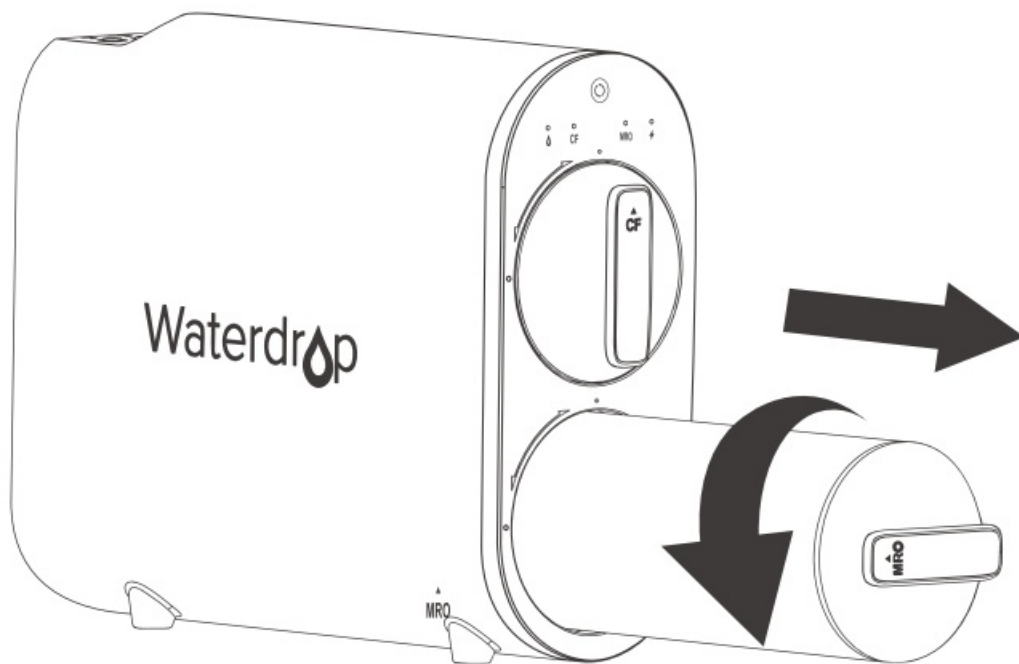

Figure 13
1. Twist the filter that needs to be replaced counterclockwise (**Figure 13**).